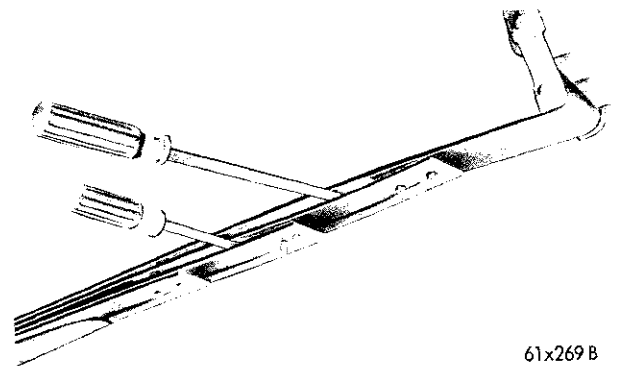

Fig. 5—Separating Spring Leaves
(2) Remove the alignment clips from the spring.
(3) Separate the spring leaves (Fig. 5) and remove the interliners.